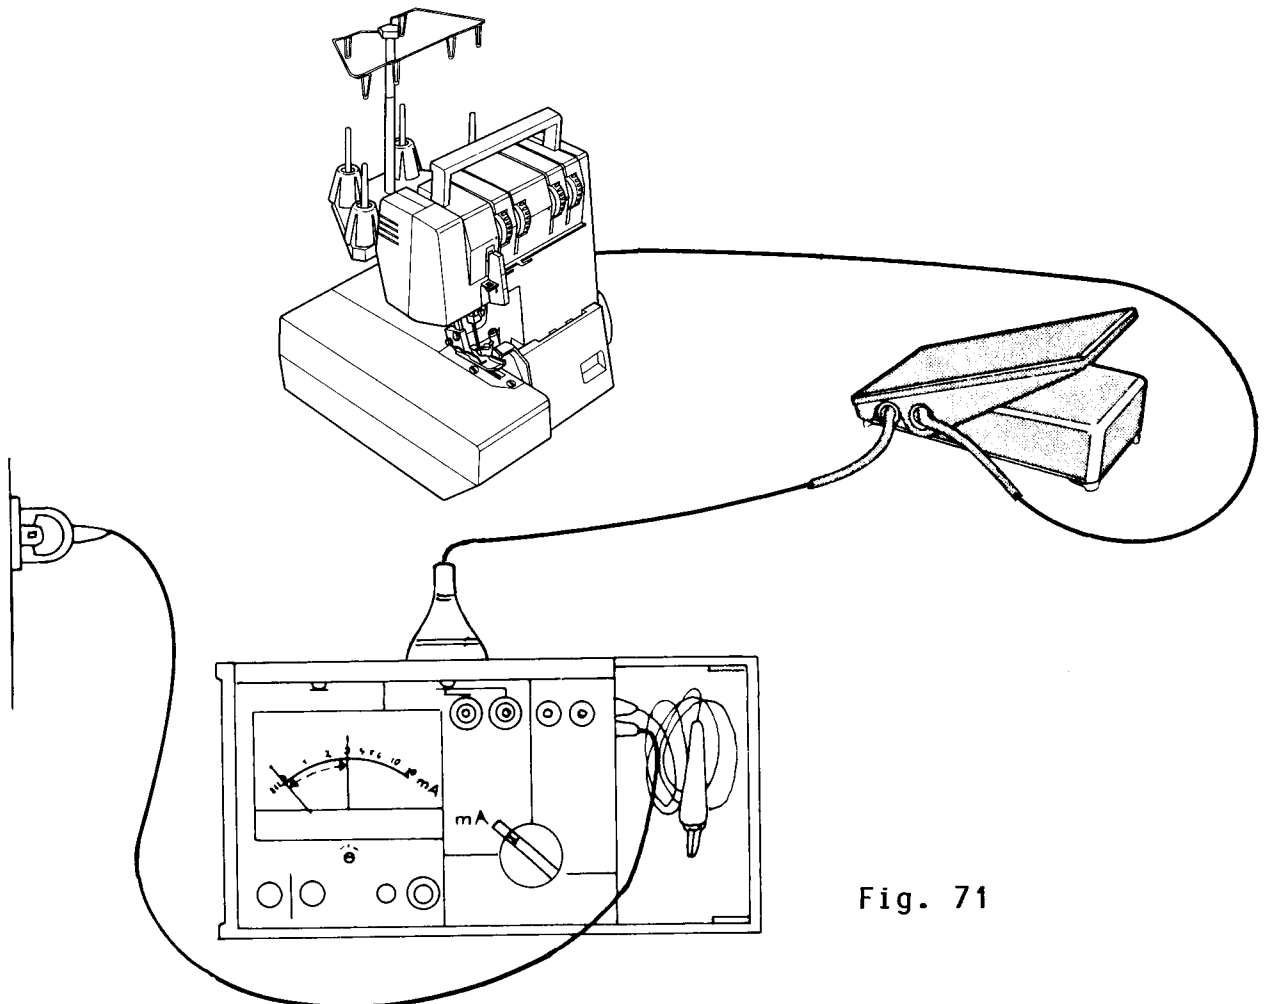

Fig. 71
- * Leave sewing machine plug in right socket (**Fig. 71**).